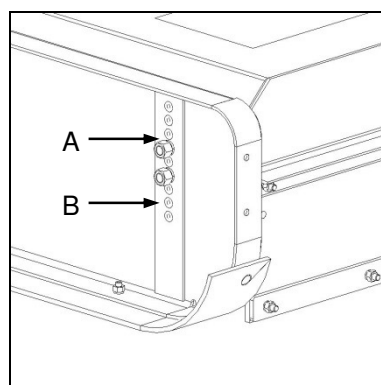

Fig. 3
- ✔ To set working height of the implement, remove the side panel retaining nuts (Fig. 3-A) and relocate the side panel position by selecting an appropriate hole (Fig. 3-B). Ensure the implement is level by selecting similar hole positions at each adjustment point.
- ✔ Om die werkshoogte van die implement te stel, verwyder die sypaneel klemmoere (Fig. 3-A) en verskuif die sypaneel posisie deur die geskikte gat posisie te kies (Fig. 3-B). Maak seker dat die implement gelyk is deur soortgelyke gat posisies by elke verstelpunt te kies.